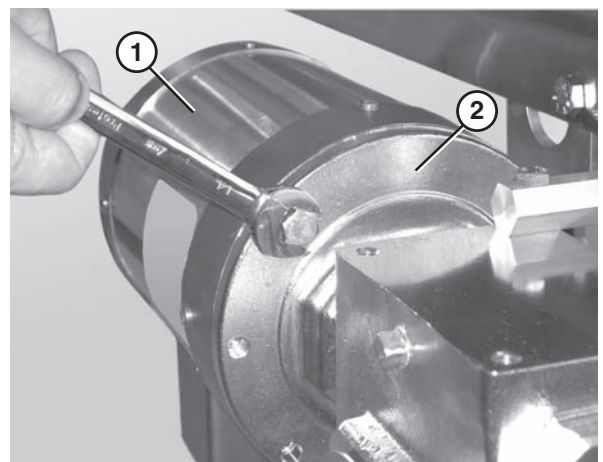

Figure 59
2. Remove the bolts that connect the motor to the drive assembly (**Figure 59**).
3. Remove the motor (**Figure 59, item 1**) from the drive assembly (**Figure 59, item 2**).